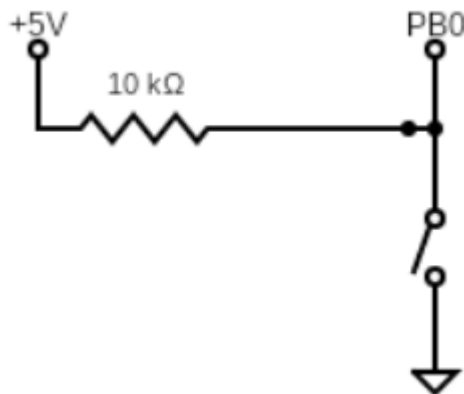

Figure 2: Connection to input port 5
2. Connect any input port, say PB0 to one end of DIP switch and other end to ground. Connect a $10\text{ k}\Omega$ pull-up resistor to PB0 as shown in Figure 2.